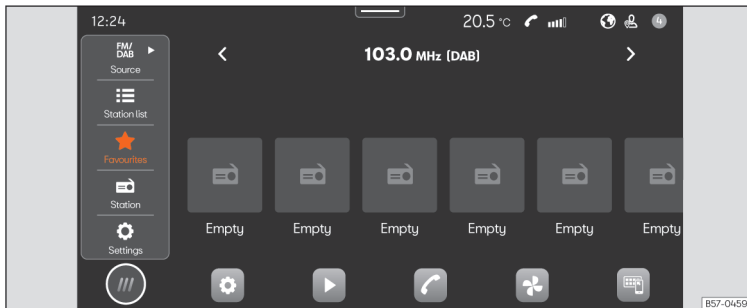

Fig. 134 Schematic diagram: Radio view.
- Press **HOME** > >>> **Fig. 134**.